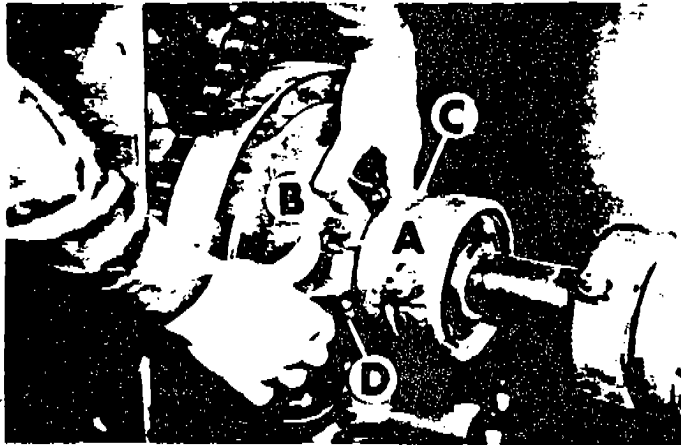

FIG. 1
The clutches are adjusted by depressing the lock lever (A) as shown in Fig. 1, and rotating the clutch finger assembly (B) in a clockwise direction, facing the clutch, to tighten and in a counter-clockwise direction to loosen. They should be adjusted to where it requires some leverage to engage them and should feel and hear a definite snap as the rollers engage the recess in the cam. Be sure the lock lever (A) drops into the slot when adjustment is completed.
REFER TO PAGE 6 FIGURES 1, 2, 3 & 4